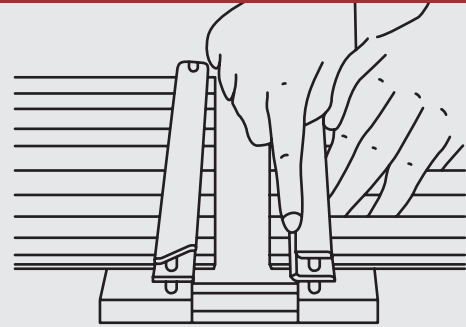

Fig.1
- 3- Place the ends of the waterstop through the adjustable jig and clamp down using assembly screws, cut both ends off square with a sharp knife or fine tooth saw. (Refer fig.1)